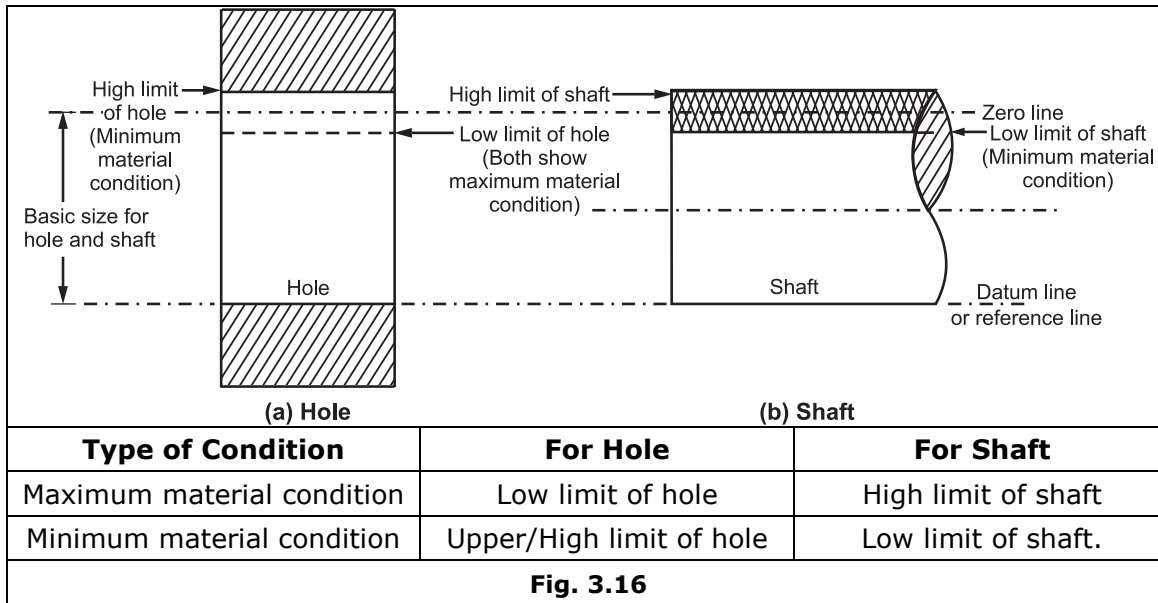

Fig. 3.16
- Double ended plug gauge forms GO gauge side on one end and NO GO side on another end. Refer Fig. 3.16.